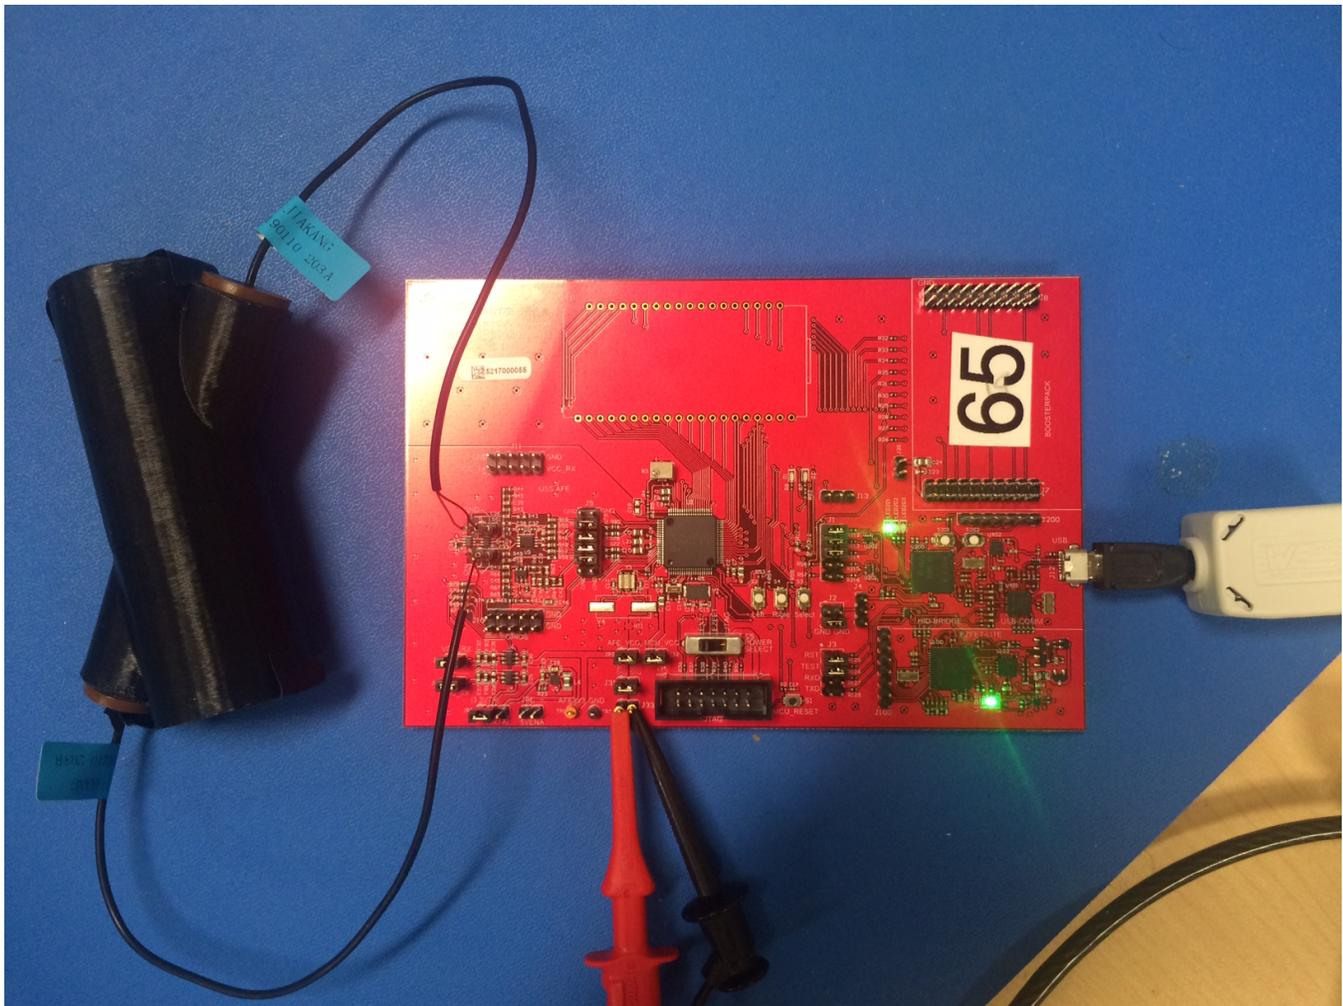

Figure 1. EVM430-FR6043 Connected to gas flow pipe (without ground can)
2. Connect the EVM430-FR6043 to the gas flow meter (see Figure 1). The pipe needs to be inserted in a metallic can to minimize noise. The can also needs to be grounded using one of the ground pins on the EVM.